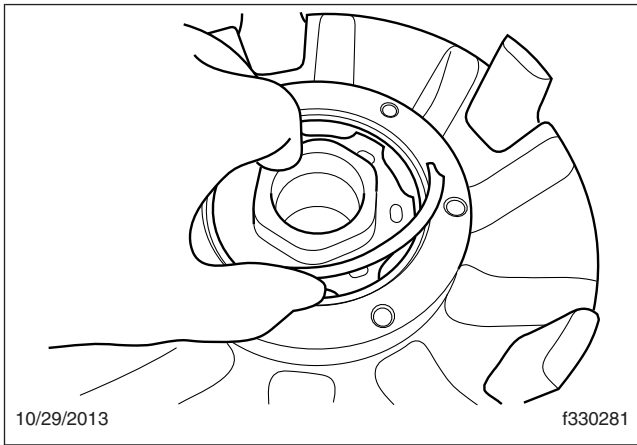
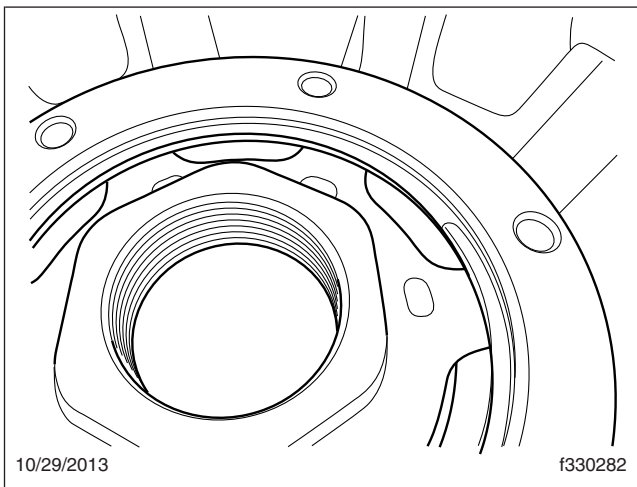

Fig. 3, Installing a Spiral Snap Ring
Fig. 4, Fully Seated Spiral Snap Ring
- 2.3 Install the spiral snap ring into the snap ring groove in the hub. Ensure that it fully seats into the groove in the hub. See Fig. 3 and Fig. 4.